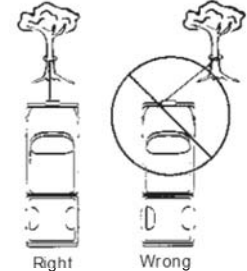

Figure 6
13. **AVOID CONTINUOUS PULLS FROM EXTREME ANGLES** as this will cause the wire rope to pile up on one end of the drum (Figure 6). This can jam the wire rope in the winch, causing damage to the rope or the winch.